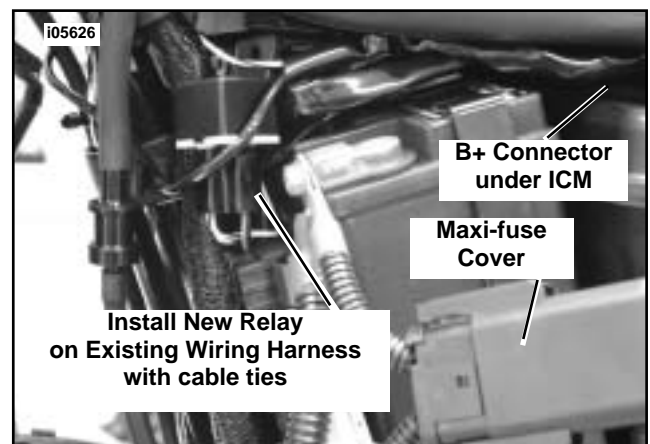

Figure 3. Remove Side Cover
8. See Figure 3. Using a cable strap from kit, secure wire harness relay to main wiring harness in vertical position.